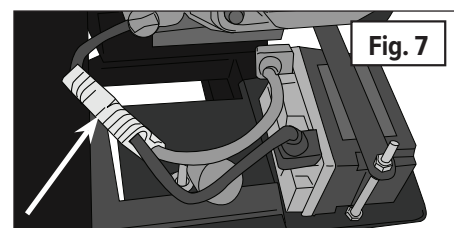

Fig. 7
3. **(Fig. 7)** Plug the battery harness connector into the engine harness connector.
1. **(Fig. 7)** Remove the hose from the Blower Inlet Collar and reattach the collar onto the Blower Inlet. Stretch the hose over the Blower Unit until the hose is off the ground. Look down at the Blower Collar and mark the hose where it lines up just past the threads of the collar. This is the amount of hose needed to be cut.